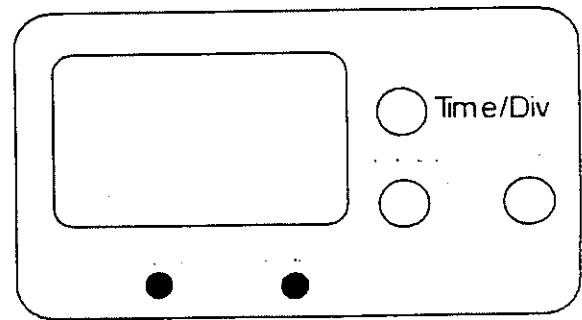

Figure 1
3.1 Follow the wiring in Figure 1
5.1 Use the circuit as in Figure 1.